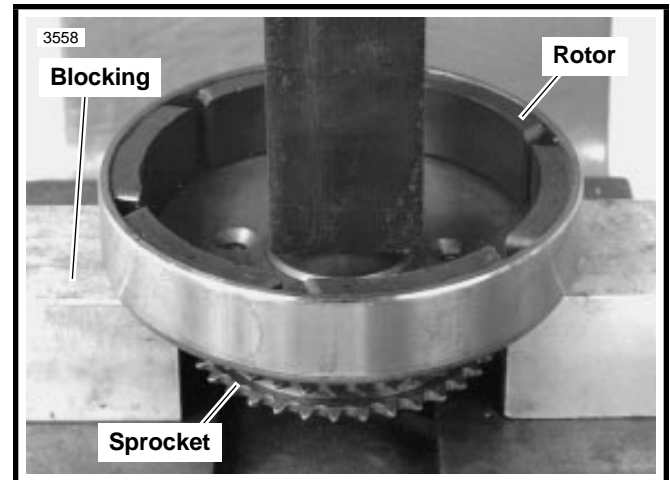

Figure 7-26. Removing Rotor From Sprocket
2. See Figure 7-26. Position blocking under rotor. Press sprocket free of rotor.